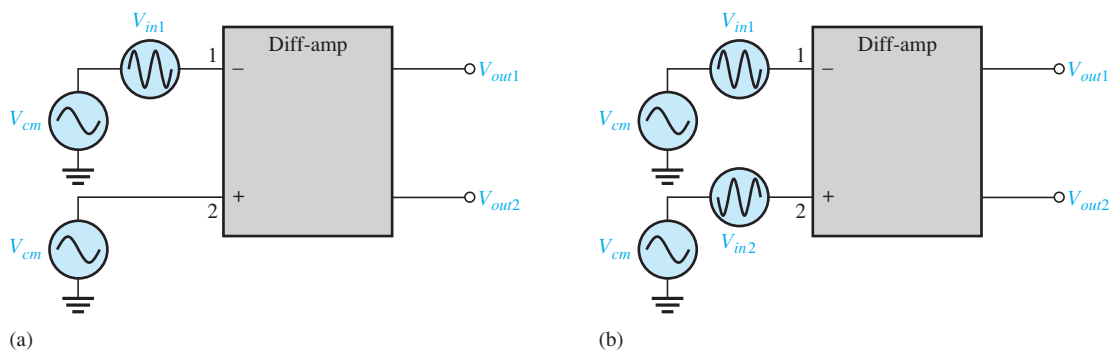

FIGURE 6-9
The differential amplifier shown in Figure 6-9 has a differential voltage gain of 2500 and a CMRR of 30,000. In part (a), a single-ended input signal of $500\ \mu\text{V}$ rms is applied. At the same time, a 1 V, 60 Hz common-mode interference signal appears on both inputs as a result of radiated pick-up from the ac power system. In part (b), differential input signals of $500\ \mu\text{V}$ rms each are applied to the inputs. The common-mode interference is the same as in part (a).
- Determine the rms output signal for Figure 6-9(a) and (b).
- (c) In Figure 6-9(a), the differential input voltage is the difference between the voltage on input 1 and that on input 2. Since input 2 is grounded, its voltage is zero. Therefore,
In Figure 6-9(b), the differential input voltage is the difference between the two opposite-polarity, $500\ \mu\text{V}$ signals.